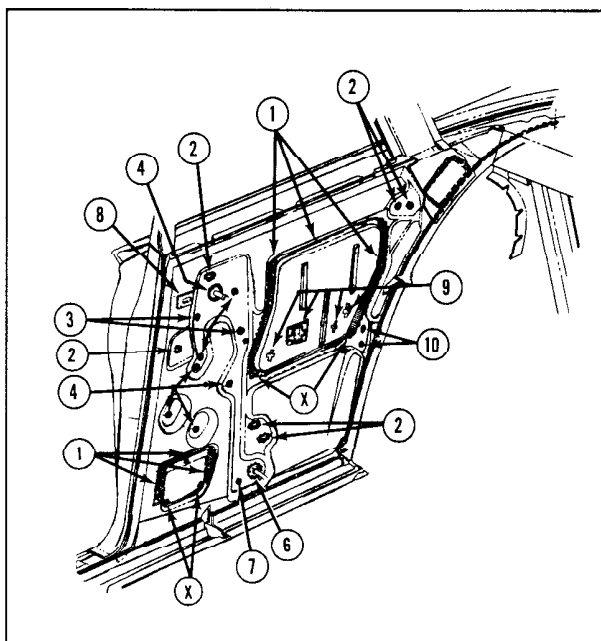

Fig. 17-61 Inner Quarter Panel Sealing ("11" Styles)
- (For "11" Styles Refer to Fig. 17-61)